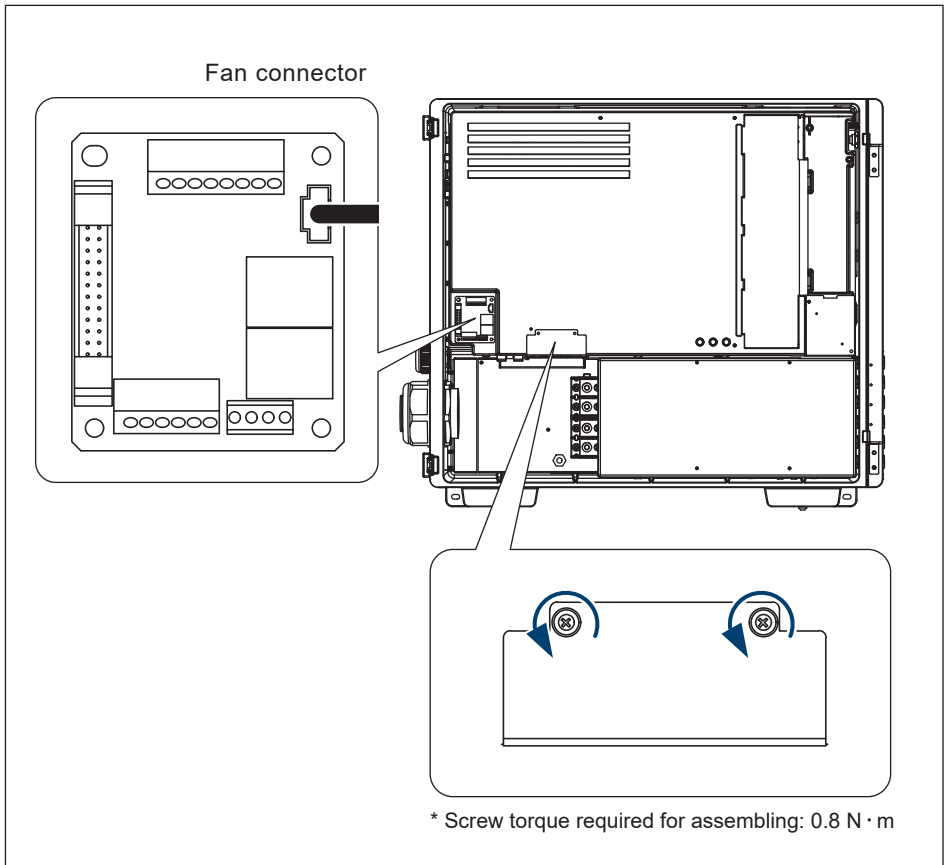
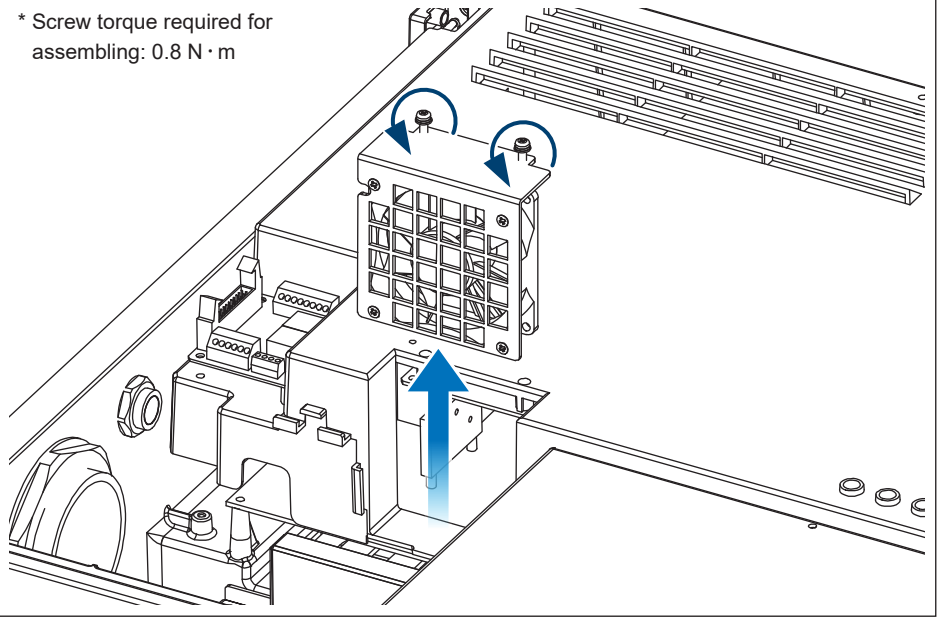

Figure 5-14: Internal fan 2 location & remove the shield cover
Figure 5-15: Take off the internal fan 2
- (1) Loosen two self-retaining screws shown in **Figure 5-14** and remove the fan cabinet.
- (2) Disconnect the power connector on the comm. board.
- (3) Lift the entire fan assembly. (shown in **Figure 5-15**)